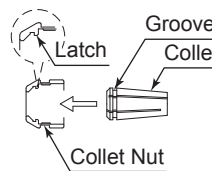
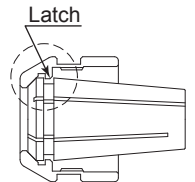

Fig. 7
Fig. 8
- ③ To install the collet, hold the collet at a slight angle, and insert it into the collet nut (Fig. 7). Press the collet in the collet nut by positioning the collet in the collet nut and pressing down on flat surface (Fig. 8).
Be sure to fully engage the latch inside the collet nut into the groove on the collets outer circumference area (Fig. 8).